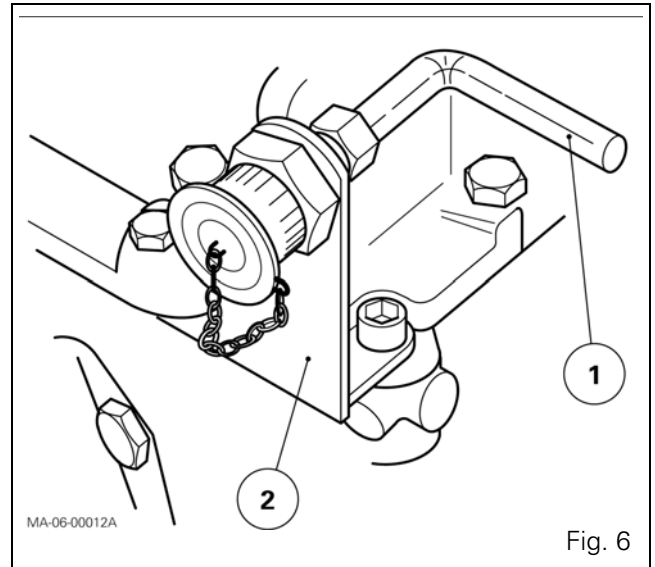

Fig. 6
5. Disconnect the pipe (1) at both ends and remove the support (2) for the trailer brake take-off if fitted (Fig. 6).
7. Remove the attachment screws (24) from the cover (10).